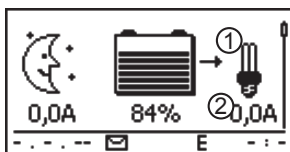

Fig. 9: Display content after connecting the load
3. ➞ Switch on the load output. The lamp ① (Fig. 9) appears on the display.
4. ➞ Switch on the load. Load currents ② greater than 0.1 A are shown on the display.
5. ➞ If Fig. 9 is not displayed then check the installation and if necessary correct the error using ⚡ 15, p. 126 et seqq.